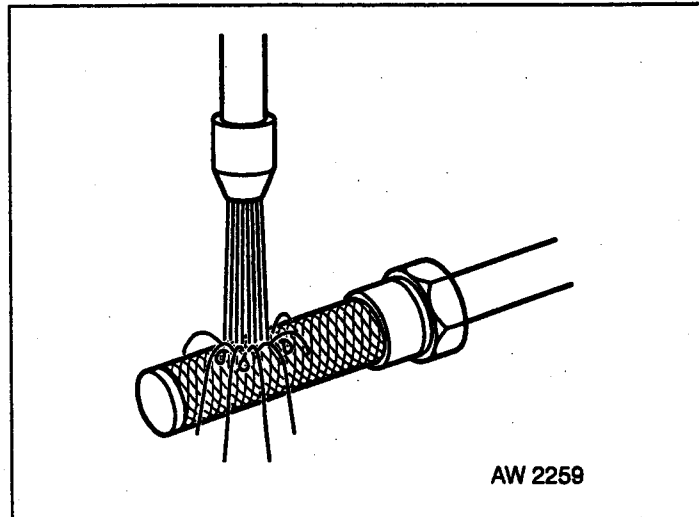

Fig 3.6 Primary Oil Filter Gauze Cleaning
b. Thoroughly wash gauze with paraffin/petrol (Fig 3.6 refers). If possible back-flush gauze filter by rinsing petrol/paraffin down attached pipe so as to flush the filter from the inside.